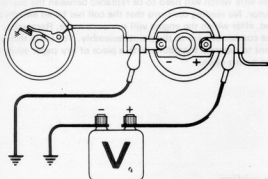

Fig. 4.18. Checking the ignition coil resistor wire ('V' is voltmeter)
- 1 Connect up a voltmeter as shown in Fig. 4.18.